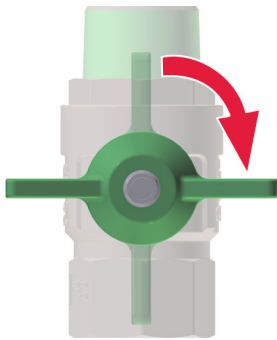

Fig. 33: Closing the main shut off valves
1. ➤ Close all main shut off valves (Fig. 33) on the fresh water station.